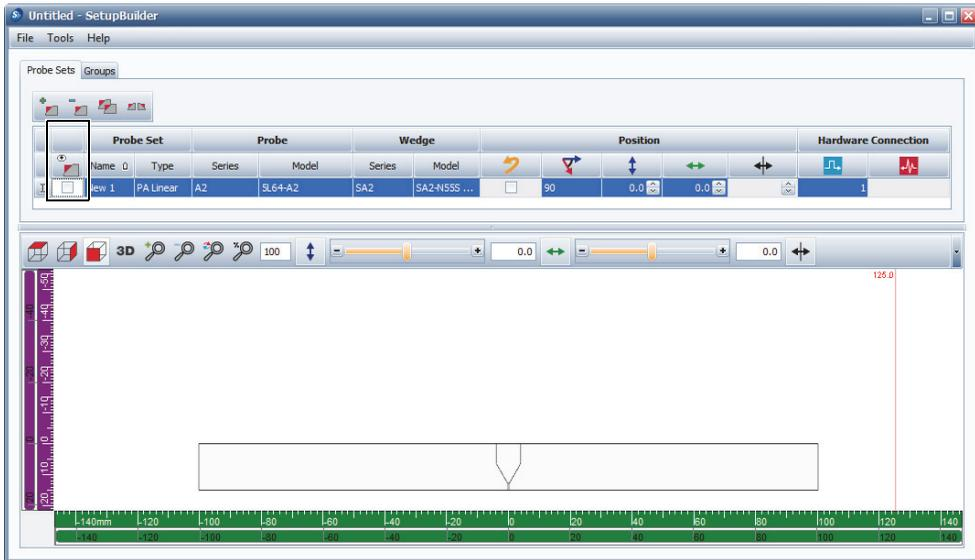

Figure 9-8 A probe set with the Visibility check box cleared on the Probe Sets tab
- To hide the probe set and all related groups in RayTracing view, clear the **Visible** column () check box (see Figure 9-8 on page 99).